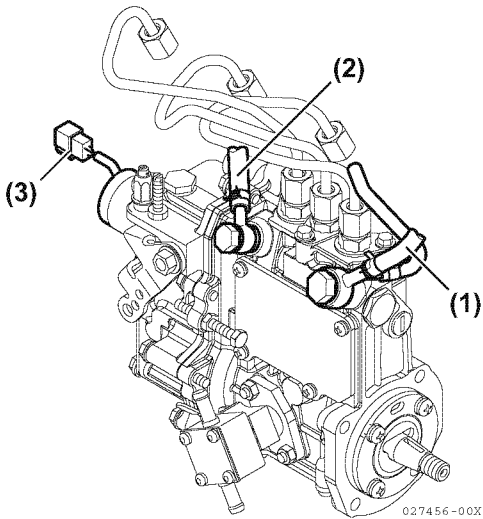

Figure 7-9
8. Disconnect the fuel return lines from the fitting on the fuel injection pump (Figure 7-9, (1)). Plug the open ends of the lines to minimize leakage and prevent contamination.
9. Remove the fuel supply line (Figure 7-9, (2)) from the fitting on the fuel injection pump.
12. Separate the stop solenoid wiring connector (Figure 7-9, (3)).